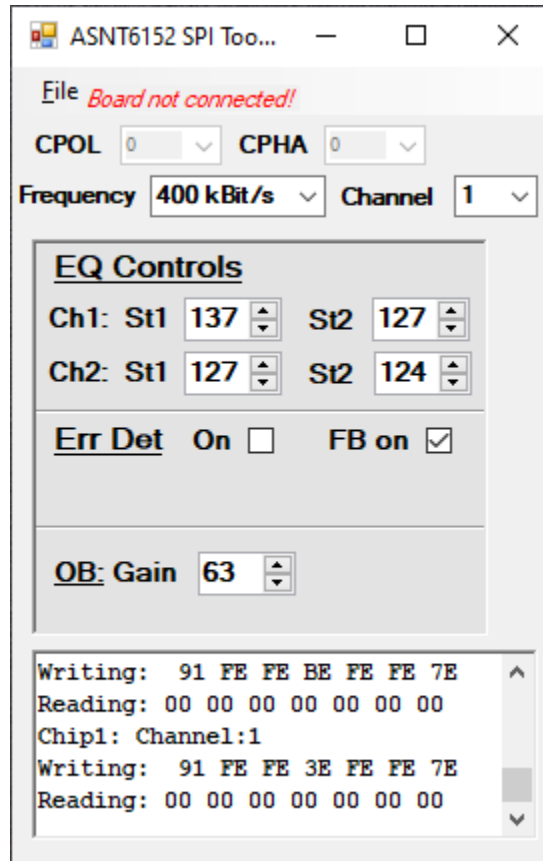

Fig. 10. GUI in the expert mode example
- 13. Example of a GUI running in expert mode is shown in Fig. 10.